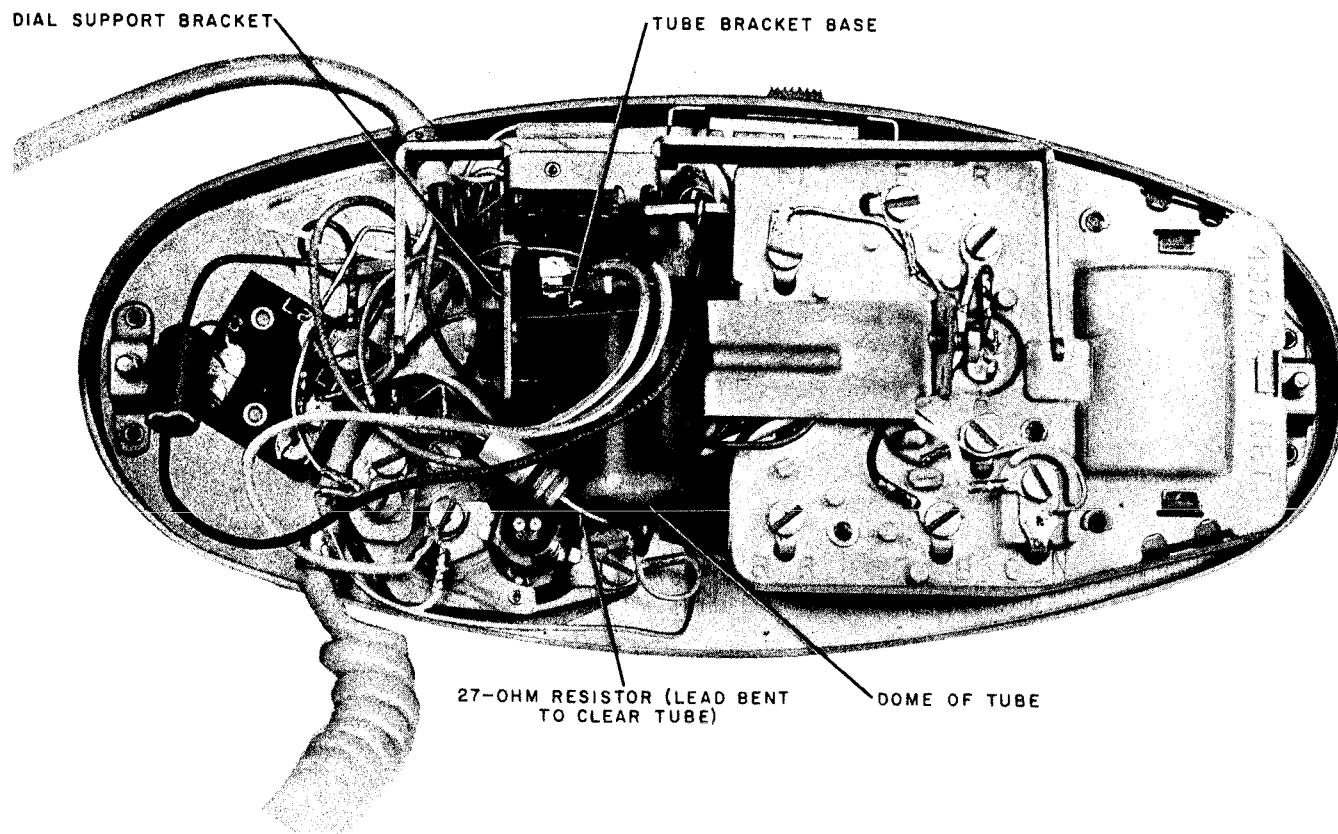

Fig. 13 — Location of Cold-Cathode Tube in 701B Telephone Set
3.12 If 4-party selective or 8-party semiselective service is desired, a 425A or 426A cold-cathode tube may be ordered and installed in base of 701B or 702B telephone set as follows (see Fig. 13):